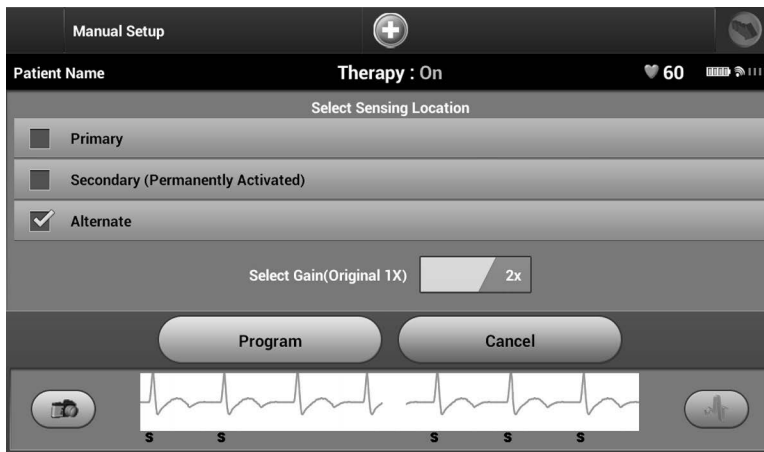

Figure 52: Manual Setup screen with sensing vector and gain options
3. Select Continue to proceed or select Test to retry. The sensing configuration can be evaluated by temporarily activating any of the vectors or gain settings that are present on the Manual Setup screen (Figure 52). The Live S-ECG and markers will reflect the temporary selections for evaluation purposes.
4. There are three available sensing vectors that can be manually selected from the Manual Setup screen (Figure 52):
The gain setting adjusts the sensed S-ECG signal sensitivity. It may be manually selected with the Select Gain slider switch on the Manual Setup screen (Figure 52).